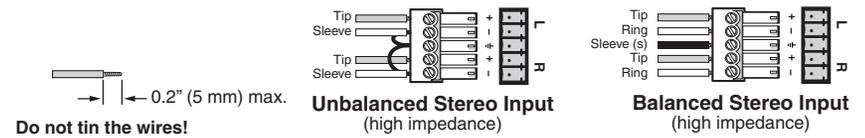
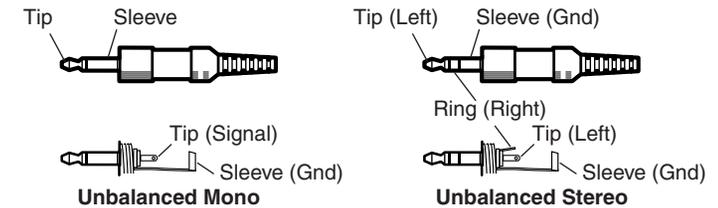

Figure 8 — Captive screw input connector wiring
Figure 9 — Phono audio connectors
- ⑤ **Audio Input connector** — Connect a balanced or unbalanced audio input to this 3.5 mm, 5-pole captive screw connector. Connectors are included, but you must supply the audio cable. See figure 8 to wire a connector for the appropriate input type and impedance level. High impedance is generally over 800 ohms.
NOTE When making connections for the MDA from existing audio cables, see figure 9. A mono audio connector consists of the tip and sleeve. A stereo audio connector consists of the tip, ring and sleeve. The ring, tip, and sleeve wires are also shown on the captive screw audio connector diagrams, figure 8 and figure 10.